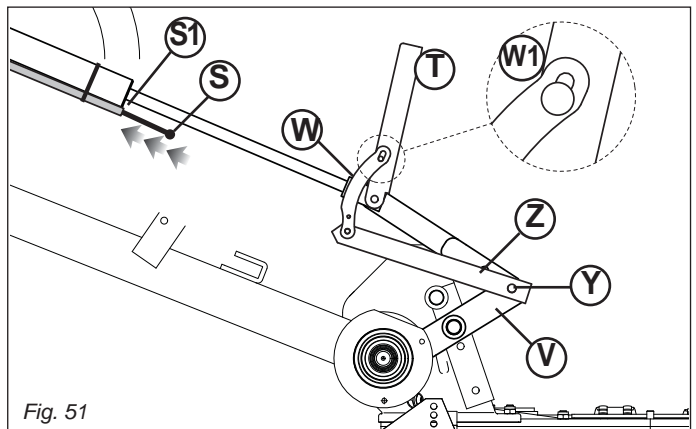

Fig. 51
- 1) Move the lever mechanisms (V and Z, Fig. 51) to position (Y).
- 2) Lift the bracket (T) as shown in Figure 51, and lock it with the rod (W) in the lower position of the slot (ref. W1, Fig. 51).
- 3) To avoid unpleasant problems during movement of the cutter bar, detach the steel cable (S) from the rod (W) and retrieve it up to position (S1).